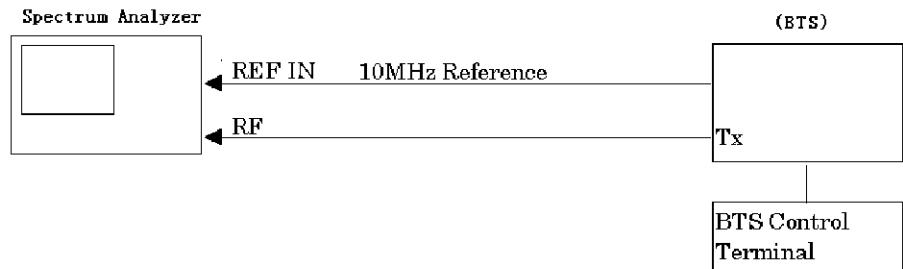

Figure 2-1 Setup for the measurement of the W-CDMA signal
1. Connect the unit under test as shown in Figure 2-1.